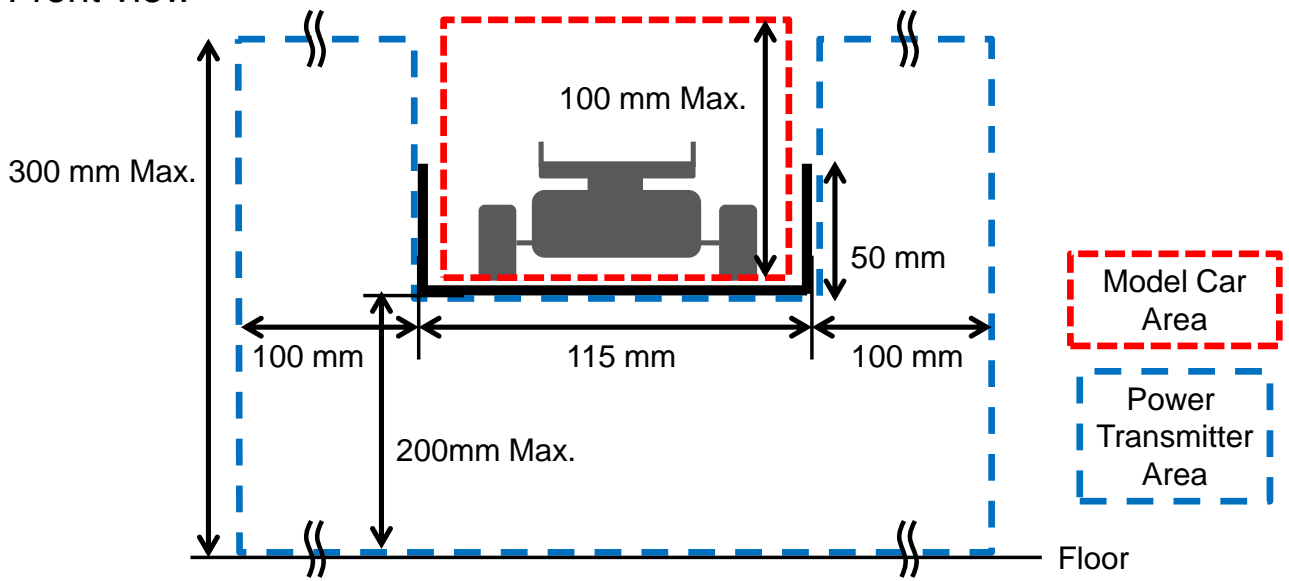

Figure 2
- Put your RF power transmitter within the blue lines shown in Fig. 2.
- Put your car within the red lines shown in Fig. 2.
- The course shall be set 0 to 200 mm in height above the floor. See Fig. 2.